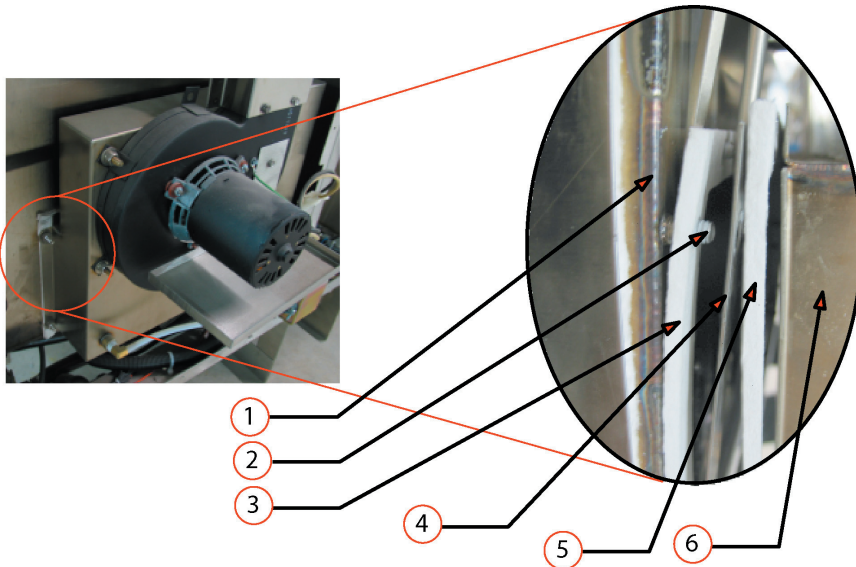

Figure 4: Gasket Configuration
- c. A third gasket, again made of white insulation material, will be placed against the second gasket (see Figure 4 for gasket configuration)